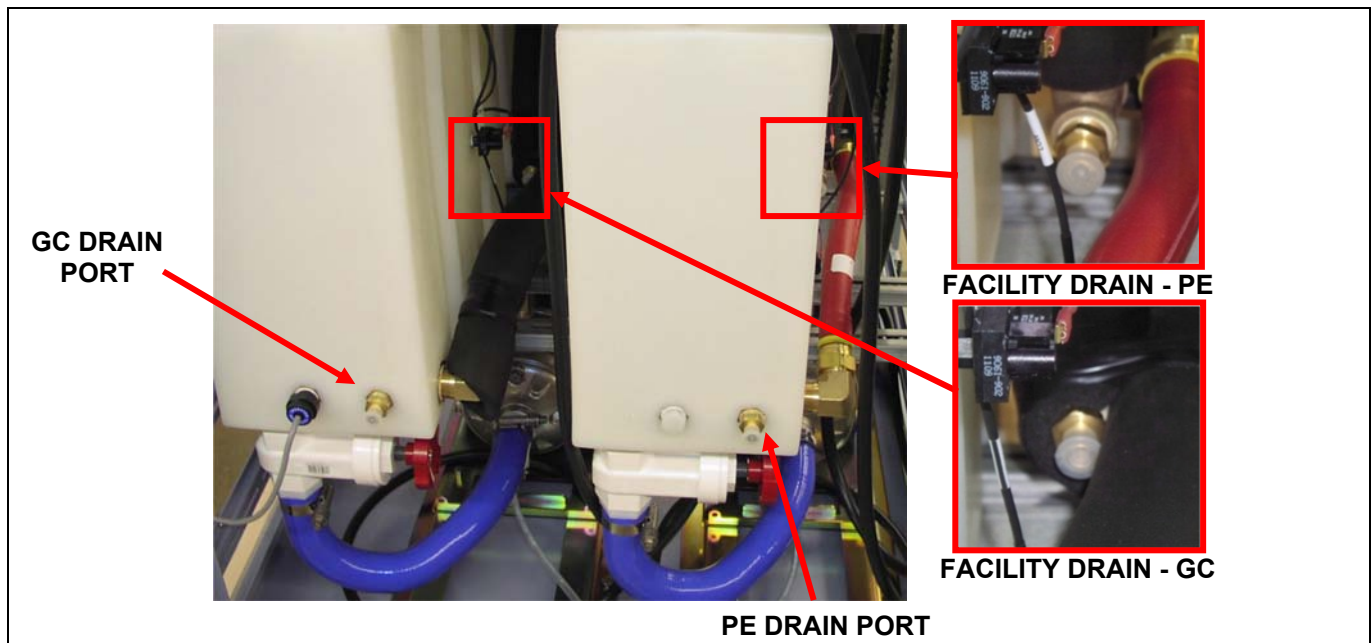

Figure 2 – System Drain Ports
Figure 2 shows both the heat exchanger drain Quick Disconnect (QD) and the tank drain. Each of the two heat exchangers and each of the two tanks have a drain.
- Facility water is drained from the HEC (LCS7397) through the two brass quick disconnects located on the bottom of the PE and GC heat exchangers (Figure 2).
- To drain the GC plumbing circuit, begin by first removing the bulk of the volume from the tank. Attach the drain hose to the quick disconnect on the front or side of the tank (Figure 2). The tank will be sufficiently drained when fluid stops running from drain hose. Remove the drain hose from the QD.